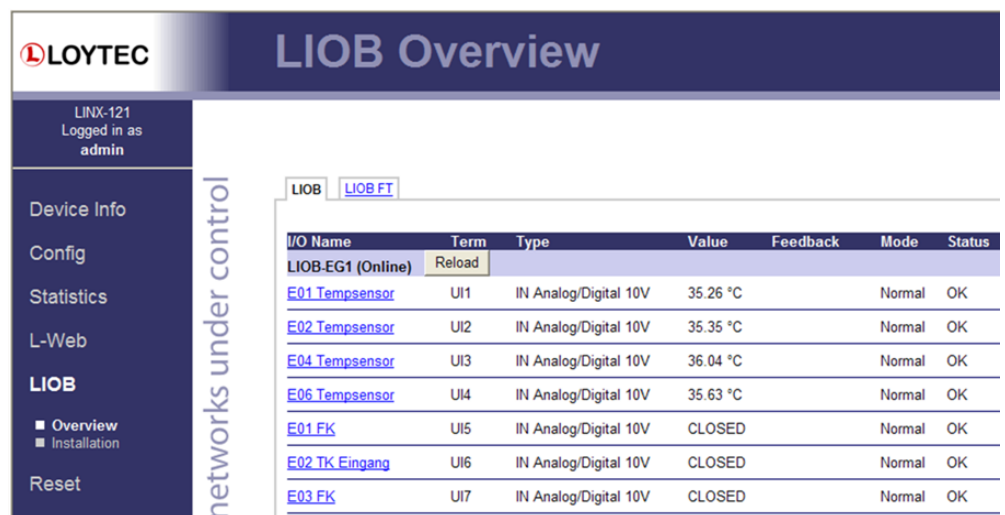

Figure 48: Test L-IOB inputs and outputs on the Web UI.
- After downloading the L-INX configuration into the L-INX device, the L-IOB input and output terminals can be tested with the L-INX Web UI. An example is shown in Figure 48.